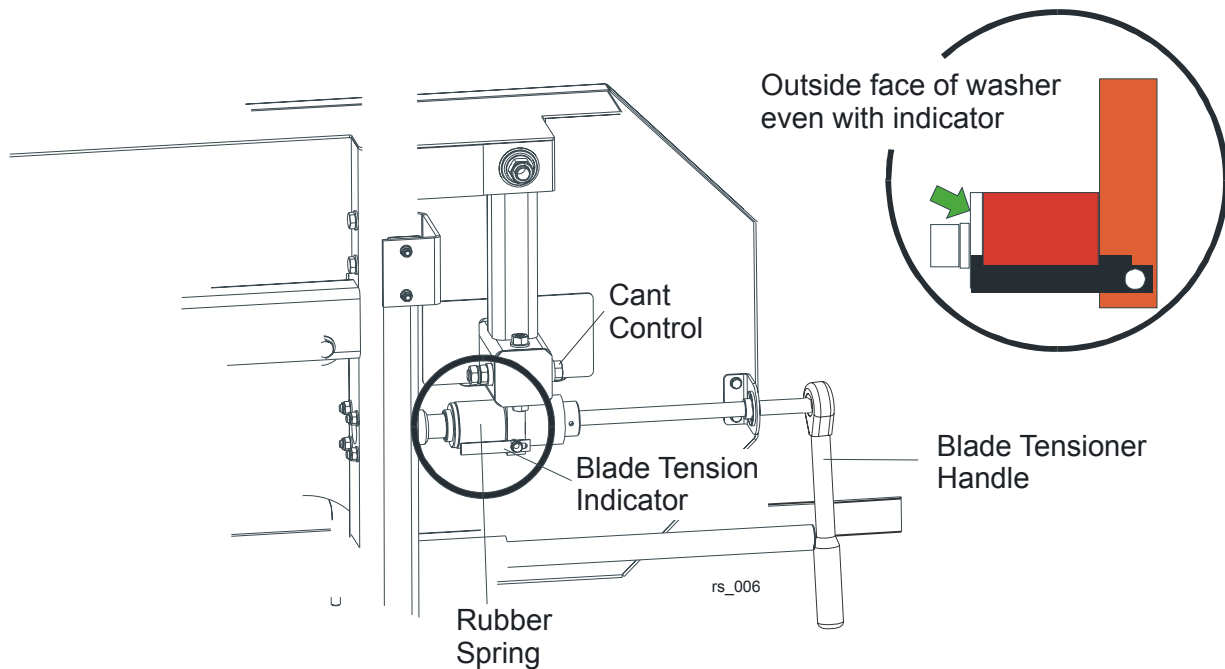

FIG. 2-2
See **Figure 2-2**. Place the provided ratchet on the blade tensioner shaft. Turn the ratchet clockwise until the outside face of the rubber spring washer is even with the indicator (see the figure below). Check the blade tension occasionally when adjusting the cant control or while cutting and adjust if necessary. As the blade and belts heat up and stretch, the blade tension will change. Also, ambient temperature changes can cause tension to change.
5. Use the cant adjustment bolt, shown in **Figure 2-2**, to adjust where the blade travels on the blade wheels.